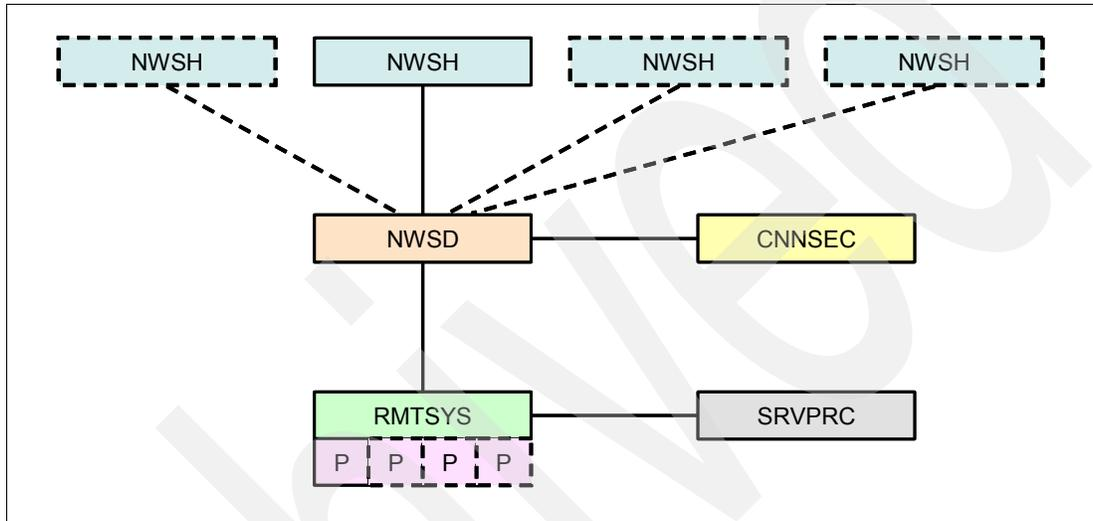
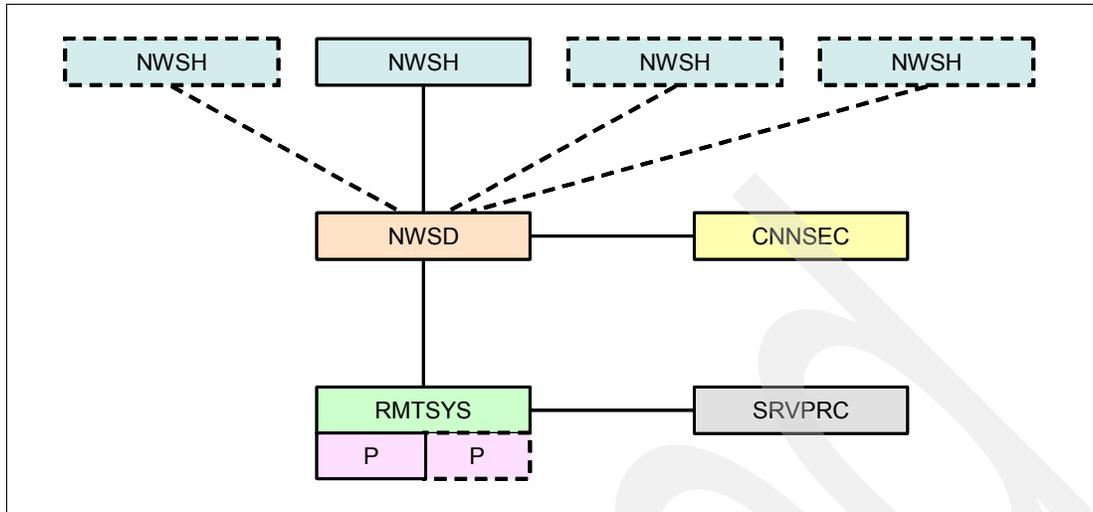

Figure 2-12 Object relationships for a single hosted server
Figure 2-13 Object relationships for multiple hosted servers: Blade server
Figure 2-12 shows how you can have multiple target HBAs (NWSHs) connected to a single hosted server (NWSD).
Note the following important points shown in Figure 2-12:
- ▶ You can add up to four target HBA connections to a single hosted xSeries server. You would also probably want to add additional initiator HBA ports, designated by “P” in Figure 2-12 to balance the bandwidth between the i5/OS partition and hosted server connections.
Figure 2-13 on page 22 is the same as Figure 2-12, but for a Blade server. The same comments apply, except that you can have a maximum of only two initiator HBA ports in a Blade server.